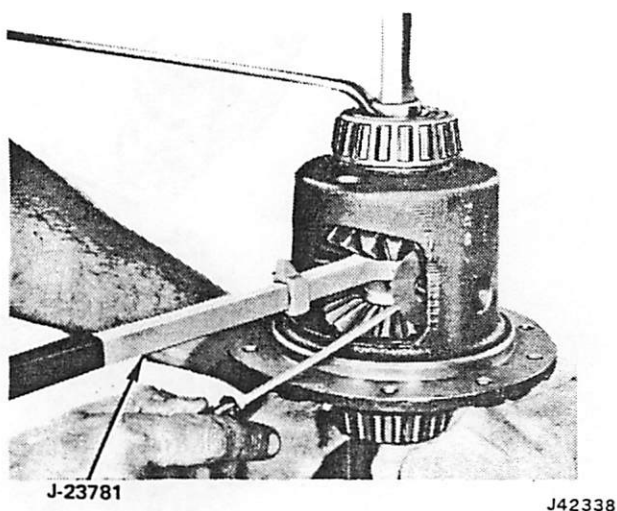

Fig. 2F-75 Pinion Gear Thrust Washer Installation
(11) Tighten forcing screw to compress Belleville springs and provide clearance between teeth of pinion gears and side gears.
(12) Position pinion gears in case and insert rotating tool pawl between side gear teeth. Rotate side gears by pulling on tool handle and install pinion gears.
(13) Continue rotating side gears using rotating tool handle until shaft bores in both pinion gears are aligned with case bores.
(14) Lubricate both sides of pinion gear thrust washers.
(15) Tighten or loosen forcing screw to permit thrust washer installation.
(16) Install thrust washers. Use small screwdriver to guide washers into position (fig. 2F-75).